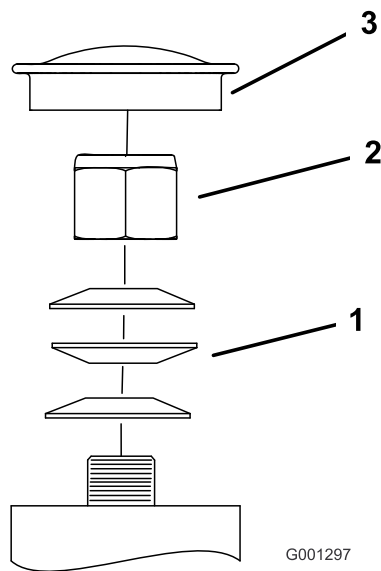

Figure 68
3. Remove the dust cap from caster and tighten lock nut (Figure 68).
4. Tighten the locknut until the spring washers are flat and then back off a 1/4 turn to properly set the pre-load on the bearings (Figure 68).
Important: Make sure the spring washers are installed correctly as shown in Figure 68.
5. Install the dust cap (Figure 68).